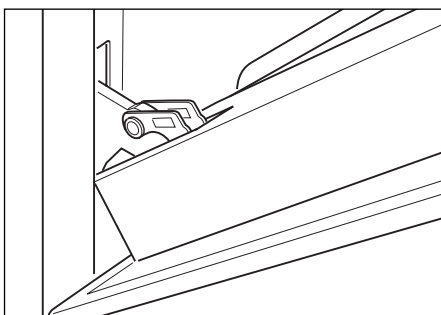

Fig. 25e
- Withdraw the hinge hooks from their location following arrow "C" (Fig. 25e).